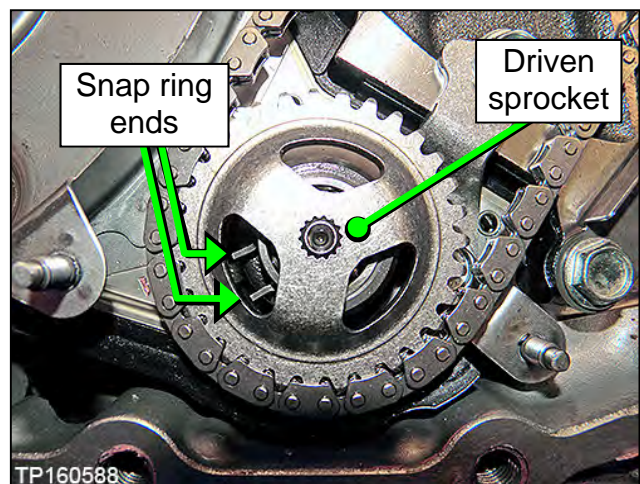

Figure 151
- a. Expand the snap ring with a suitable tool, and then push down on the driven sprocket until it bottoms out (Figure 151).